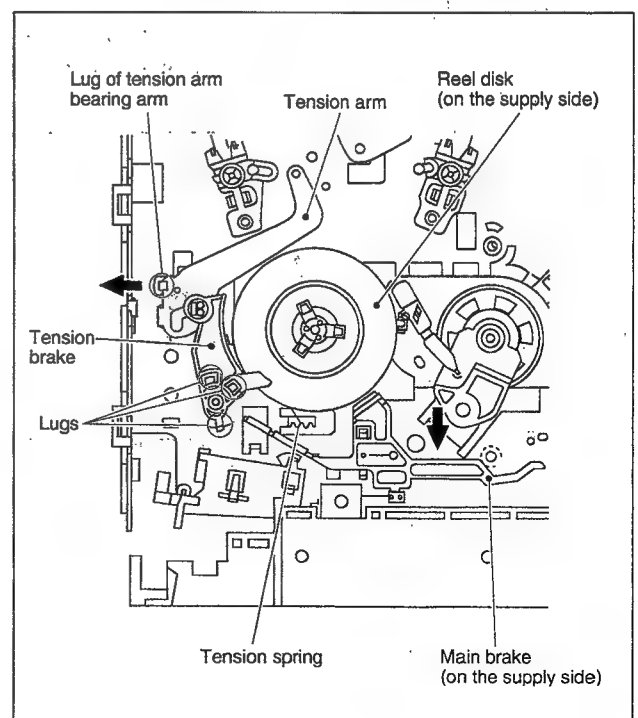

Fig. 2-2-34
- (1) Remove the three lugs of the tension brake from the main deck and pull them off.
- (2) Remove the reel disk (on the supply side) by loosening in the arrow-indicated direction the main brake (on the supply side).
- (3) Remove the tension spring on the main deck back side and remove the lugs of the tension arm bearing to pull up and remove the tension arm. (See Fig. 2-2-34)